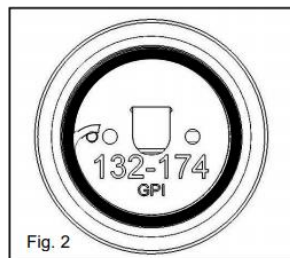

Fig. 2
3. Pre-Installation (Figure 2):
- C. Ensure O-ring is properly seated within O-ring groove as shown in Figure 2.
- D. **Important:** Verify proper operational Frequency, as labeled. (Figure2).